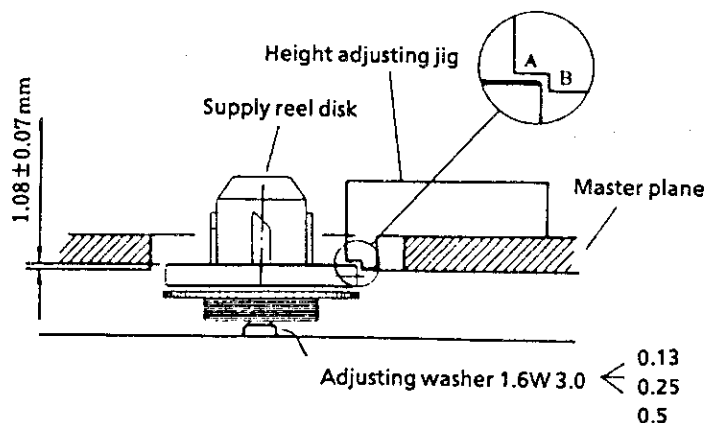

Figure. 2-5
- 1) Remove the cassette housing and set the master plane in the mechanism as shown in Fig.2-5, taking care not to hit the drum or the guide roller gear.
- 2) Make sure that the reel disk is lower than the part (A) and higher than the part (B) in the figure below by using the reel disk height adjusting jig. If the height is not within the setting value, adjust it with the height adjusting washer.